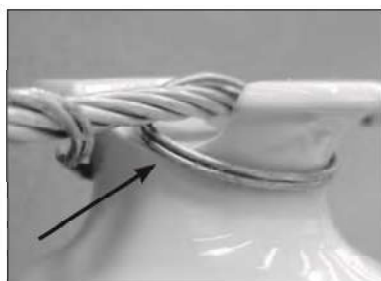

Figure 2
2. A top groove length longer than the insulator's neck diameter results in an edge. This edge creates a high stress contact point and results in an abnormal tie application. As an example, Figure 2 illustrates how a Distribution Tie reacts to this configuration (the tie tube was omitted to illustrate the gap beneath the conductor). Note the point contact at the insulator/tie interface.